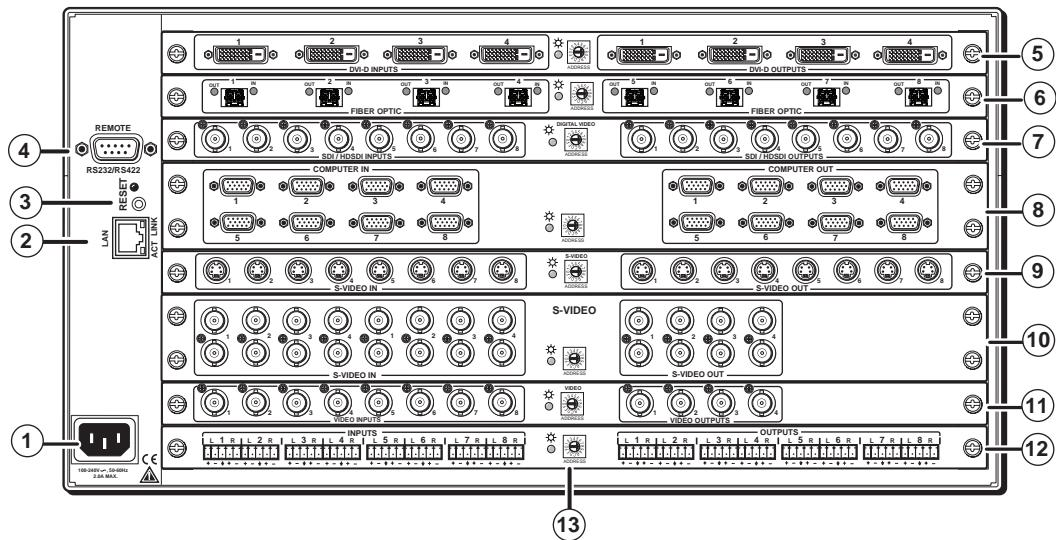

Figure 2. SMX Rear Panel Features
The I/O boards on any unit may vary with each installation, depending on desired configuration and use. All board types have the input and the output connectors clearly marked, and each board has a 16-position rotary switcher (see ⑩, Figure 2) for setting the I/O plane address. An LED on the board indicates when power is present.
Figure 2 shows some, but not all, board variations that can be installed into an SMX frame. Boards have different combinations of input and output connectors, depending on the specific board installed. To install any board into an SMX frame slot (see SMX Frame and I/O Board Installation on page 10).